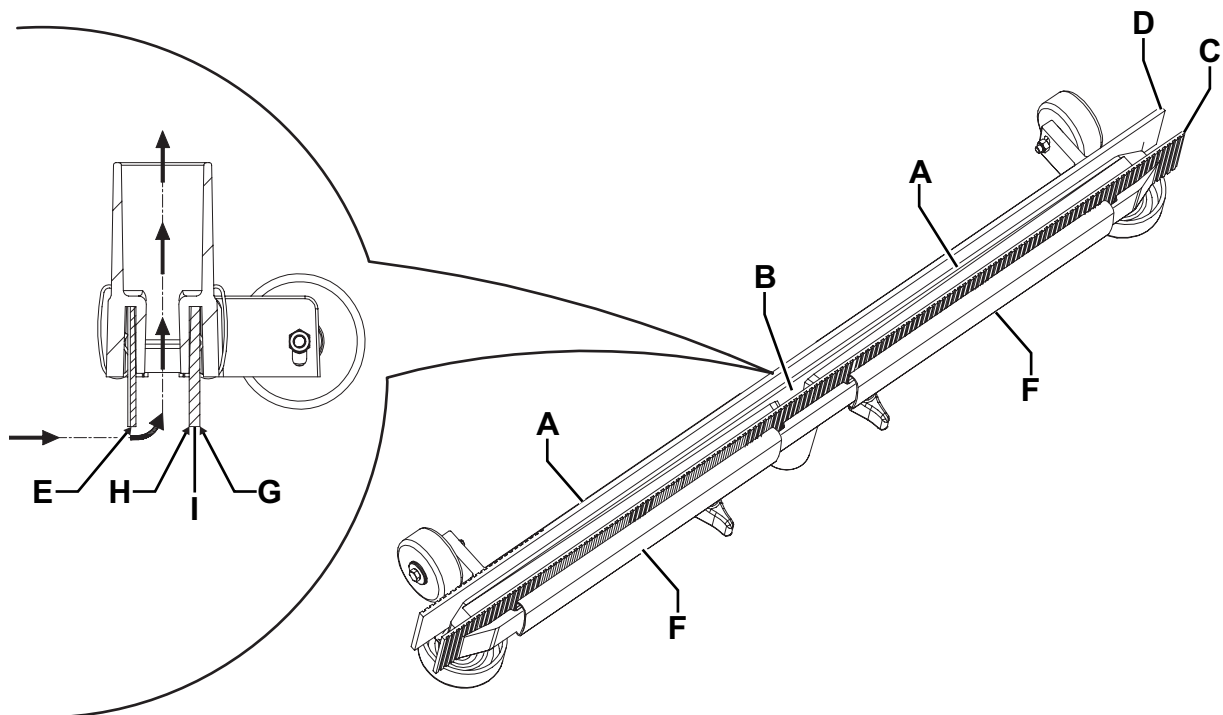

Figure 7
3. Lower the squeegee with the pedal (19).
4. Disconnect the vacuum hose (22) from the squeegee.
5. Loosen the handwheels (12) and remove the squeegee (11).
6. Wash and clean the squeegee. In particular, clean the compartments (A, Fig. 7) and the vacuum hole (B) from dirt and debris.
7. Check the front blade (C) and the rear blade (D) for integrity, cuts and tears; if necessary replace them (see the procedure in the following paragraph).
2. Check that the front blade edges (E, Fig. 7) and the rear blade edges (I) lay down on the same level, along their length; if necessary adjust the height according to the following procedure:
- Remove the mounting springs (F), then adjust the front blade (C) and the rear blade (D).
3. Check the front blade (C) and rear blade (D) for integrity, cuts and tears; if necessary replace them as shown below. Also check the front corner (H) of the rear blade for wear; if it is worn, overturn the blade to replace the worn corner with the other one (G), if it is integral. If the other corner is worn too, replace the blade according to the following procedure:
- Remove the mounting springs (F) and then replace (or overturn) the rear blade (D).
4. Install the squeegee (11) and screw tighten the handwheels (12).
5. Connect the vacuum hose (22) to the squeegee (11).